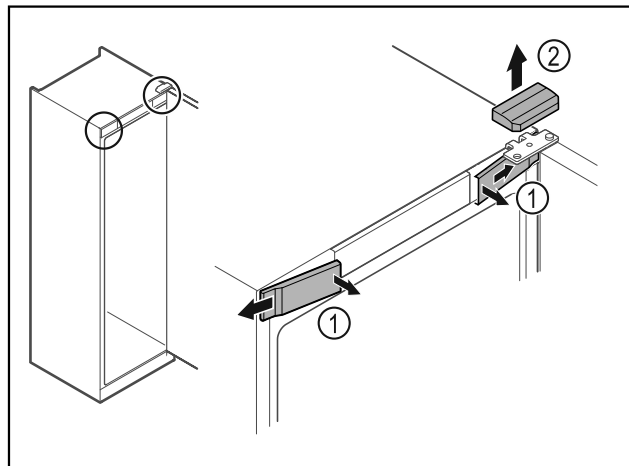

Fig. 8
- Unlatch the front covers Fig. 8 (1) on the inside and remove them sideways.
- Lift off the upper cover Fig. 8 (2).